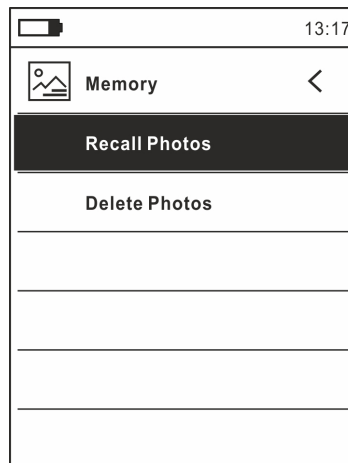

Fig. 6: Menu Memory
18. Use the keys ▲ or ▼ and key **OK** to select option “Delete photo” (see Fig. 6). The following screen appears on the display: